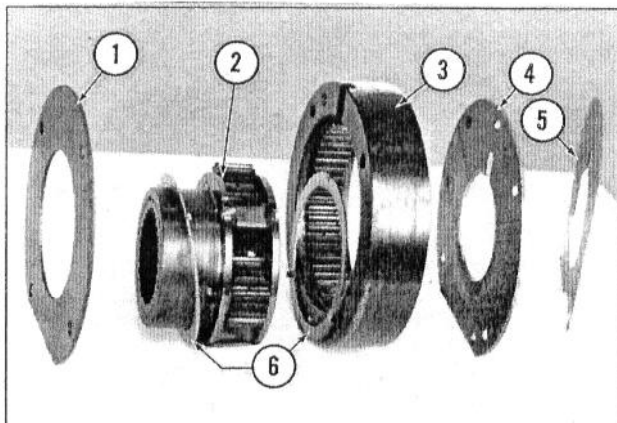

Fig. 17 - Dual Range Planetary Assembly
a. If the planetary has been disassembled, refer to Fig. 17, and proceed, as follows:
- (1) Place the carrier assembly, No. 2, into ring gear, No. 3.
- (2) Position the two thrust washers, No.